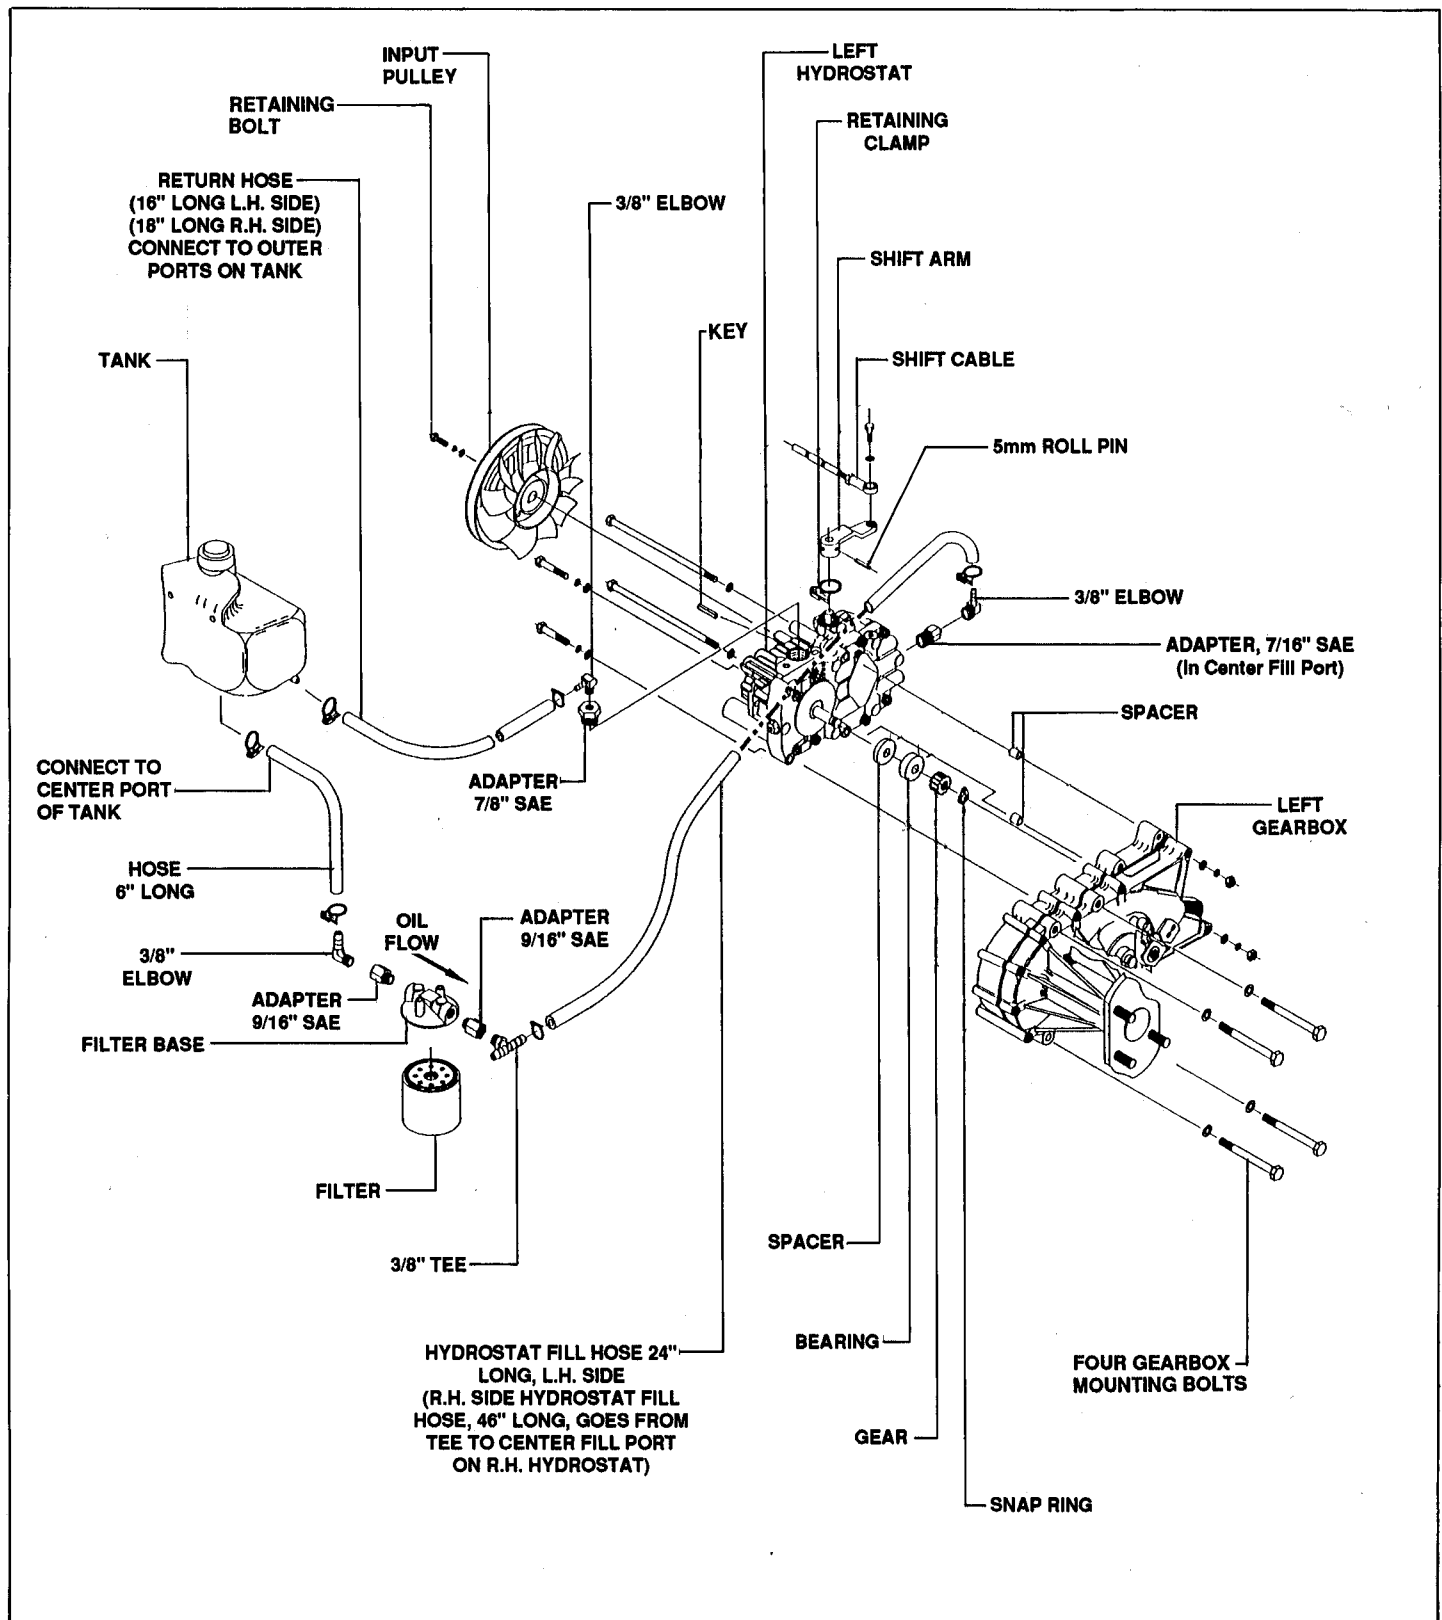

FIGURE 9.7
- (f) Remove the four gearbox mounting bolts. See Figure 9.7.
- (e) Using clamps, connect the 6" long hose from the center port on the tank to the inlet port on the filter base (Refer to Figure 9.7).
- (d) Install new fittings for fill and return hoses as shown in Figure 9.7.
- (f) Install oil fill and return hoses and clamps as shown in Figure 9.7.
- (d) Connect the oil fill and return hoses as shown in Figure 9.7.